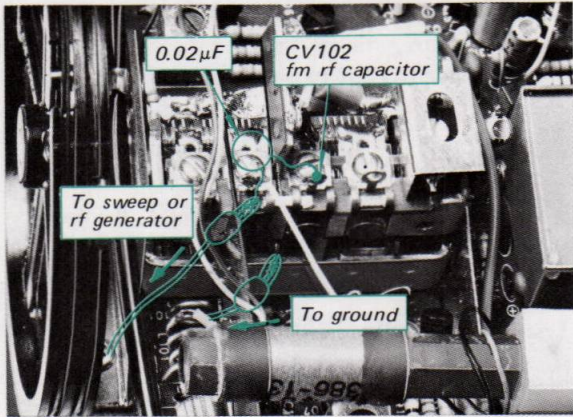

Fig. 3-4. 10.7 MHz signal injection
2. Connect the output cable of the sweep generator across CV102 on tuner and MPX board. Use alligator clips and make the connection through a 0.02μF coupling capacitor as shown in Fig. 3-4.